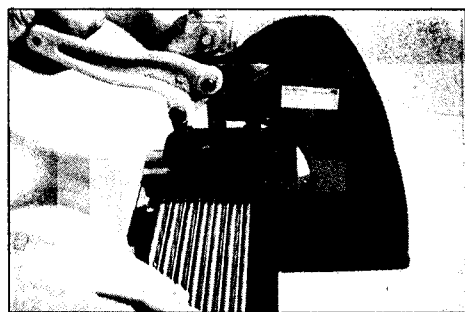

figure 1
2. Cut suitable cable length using Scotchflex Flat Cable Cutter 3382 or Scotchflex Cable Shear 3320. (fig. 1 and 2)